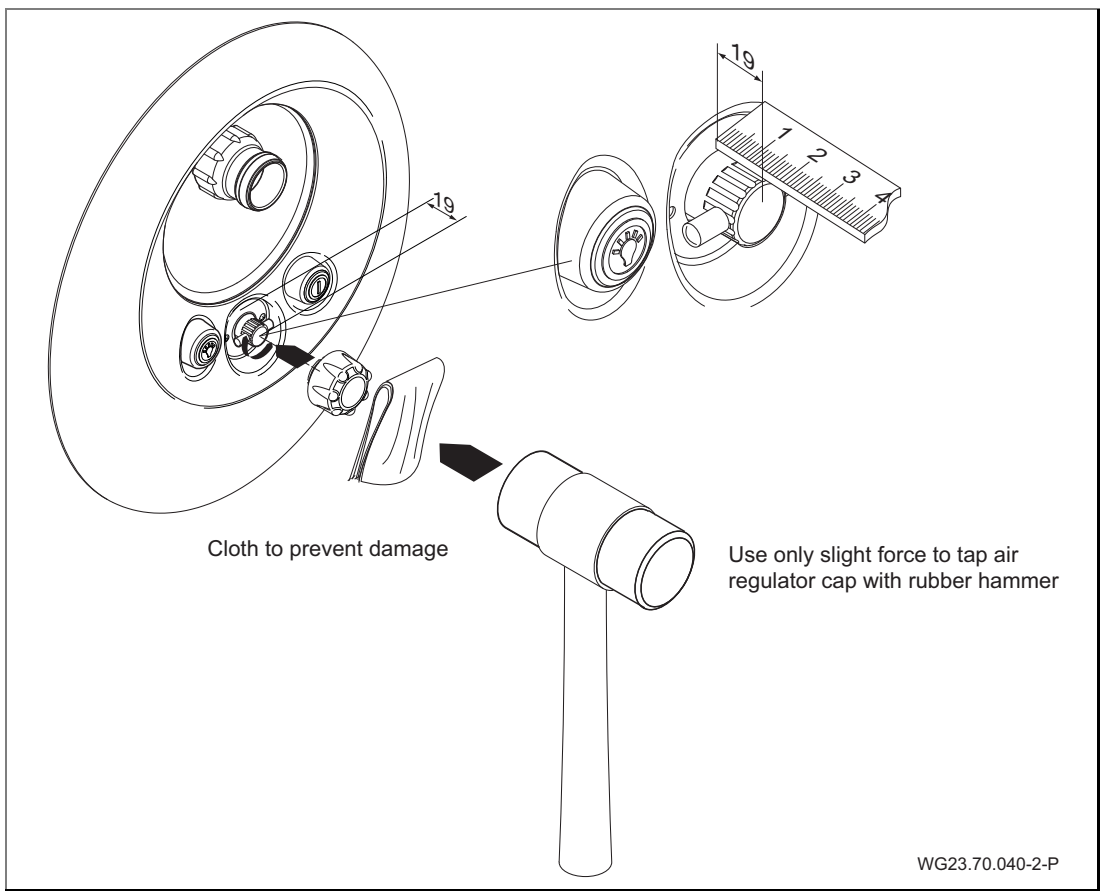

Fig. 21
11. Secure the cover for the air regulator. (Fig. 21)
12. Connect the jet pump (92) to the main housing (1) on the suction and pressure sides using the half screw (98, 99, 100), the rubber bracket (79) and the corresponding clamps (75).